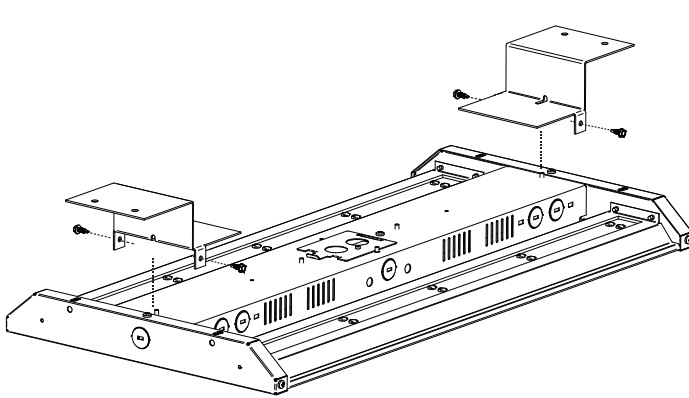

Figure 3
- Screw the brackets from the EVT SMB accessory onto the four corner holes with M5 screws. (Figure 3)